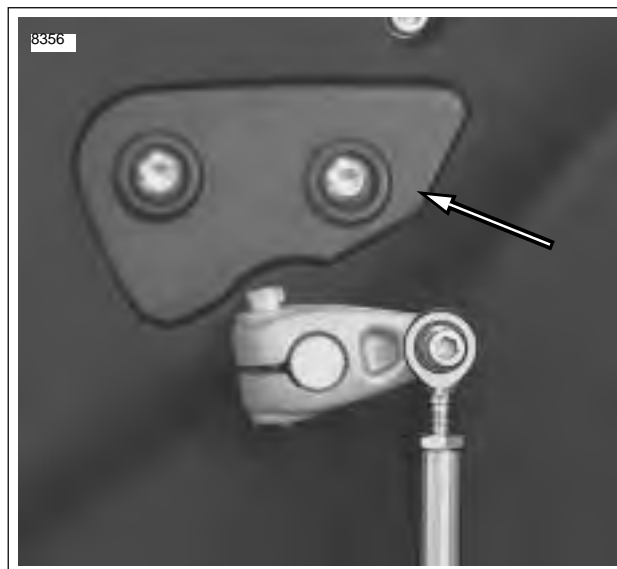

Figure 1-26. Primary Chain Inspection Cover
See Figure 1-26. Measure primary chain tension through the inspection cover opening. Adjust primary chains not meeting vertical free play specifications.
1. See Figure 1-26. Remove two fasteners with captive washers and primary chain inspection cover with gasket from primary cover.
4. See Figure 1-26. Install primary chain inspection cover and gasket to primary cover using two fasteners with captive washers. Tighten fasteners to 40-60 **in-lbs** (5-7 Nm).